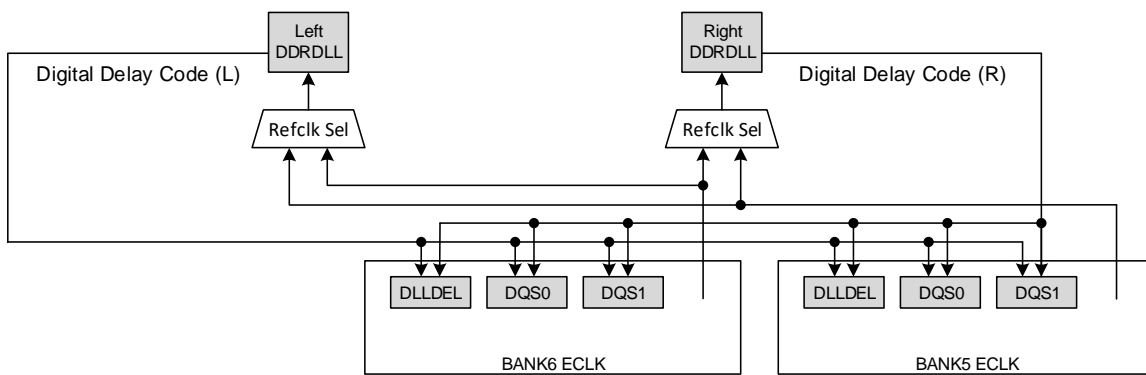

**Figure 2.14. DLLDEL Functional Diagram**
- The value is also sent to another slave DLL, DLLDEL, that takes a primary clock input and generates a 90-degree shifted clock output to drive the clocking structure. This is useful in an edge-aligned Generic DDR interface, where 90-degree clocking needs to be created. Not all primary clock inputs have associated DLLDEL control. Figure 2.14 shows DDRDLL connectivity to a DLLDEL block (connectivity to DQSBUF blocks is similar).